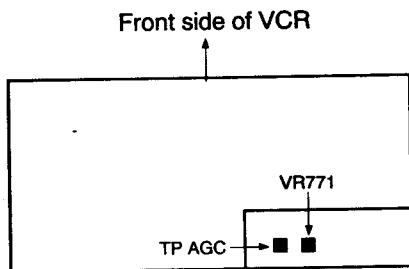

Fig. 1
**Note:** TP AGC (W718) VR771 are located inside VCR unit. Refer to below fig 1.